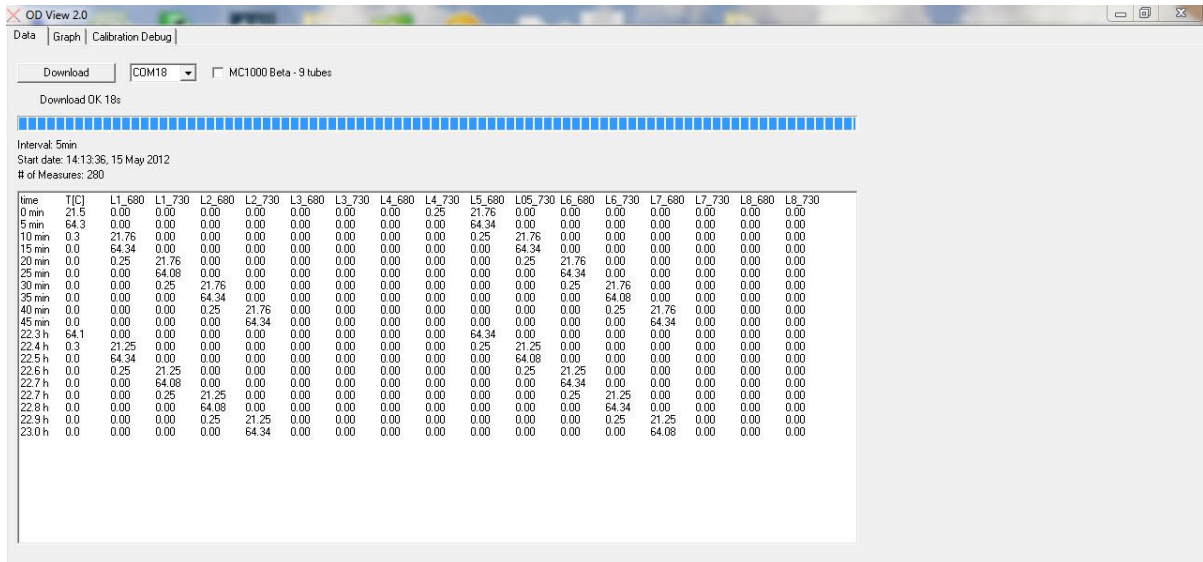

Fig. 22 OD and Temperature downloaded data window.
36. Click “detect” button for the software to connect with the Multicultivator control unit. Once the connection has been established click download button that appears. The stored data from the MC 1000-OD control unit will be downloaded and the following screen will appear as shown in Fig. 22.